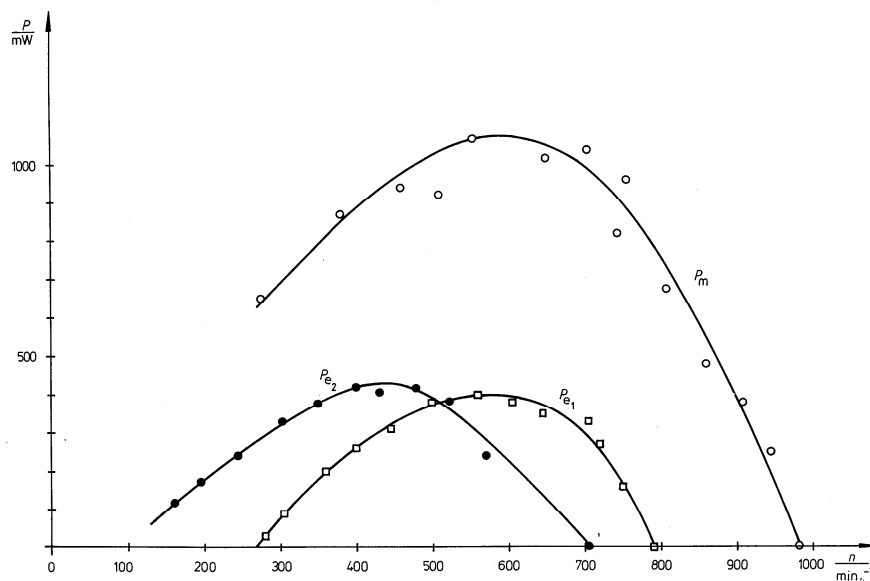

Abb. 3: Mechanical power P_m and electrical power P_e in relationship to the speed (P_{e1} = large pulley, P_{e2} = small pulley)
- Mech. power in relation to speed (Fig. 3)
- Electr. power in relation to speed (Fig. 3)